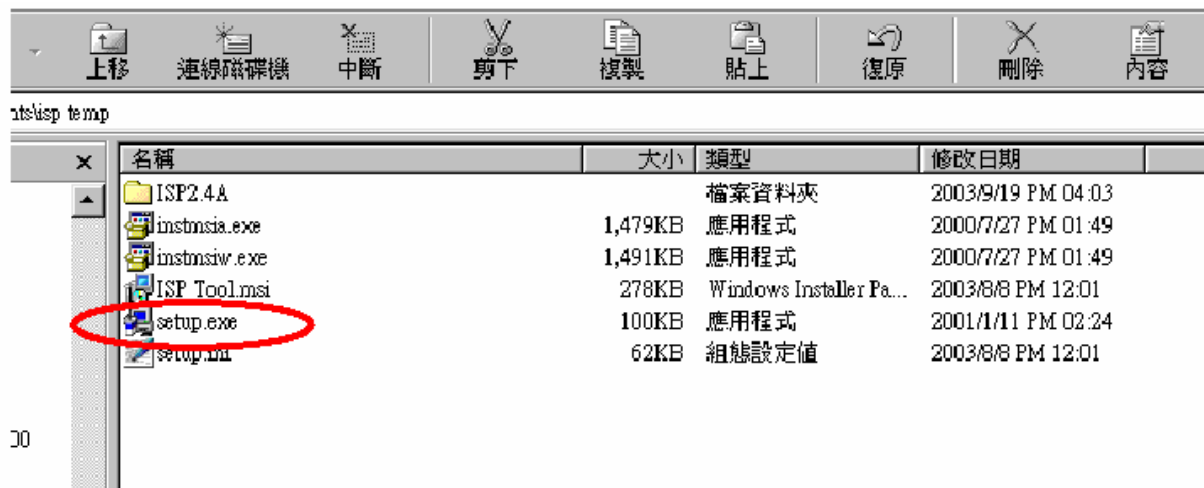

Fig 1.2
- 1.2 After extracting the ZIP file , the total files list as Fig 1.2 , and double click the file of setup.exe to install.